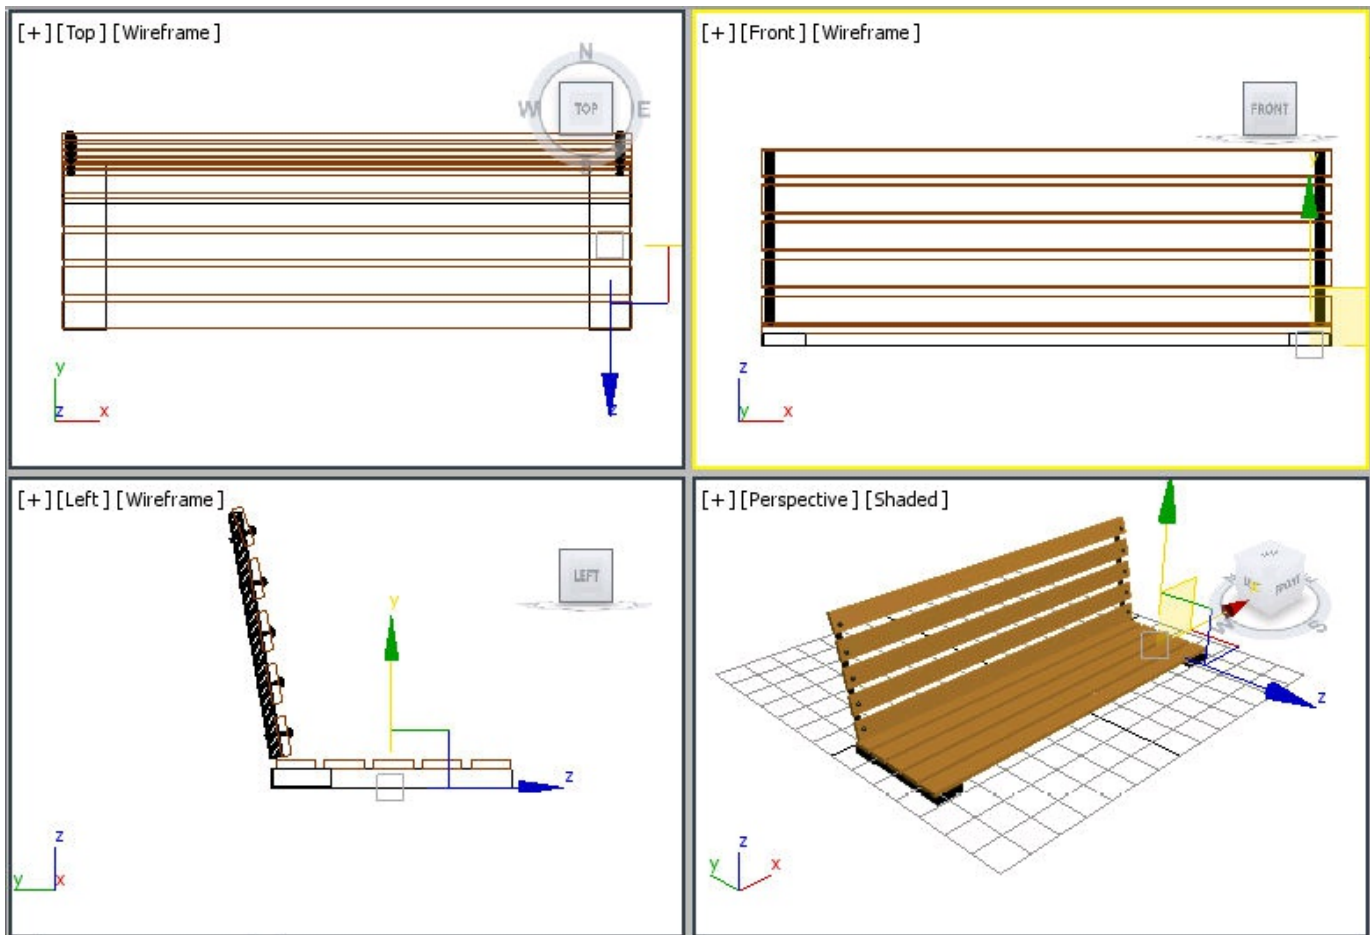

Figure 2-87 Alignment of leg support002 with horizontal seat support
7. Choose the **Select and Move** tool and align *leg support002* to *horizontal seat support* in all viewports, as shown in Figure 2-87.